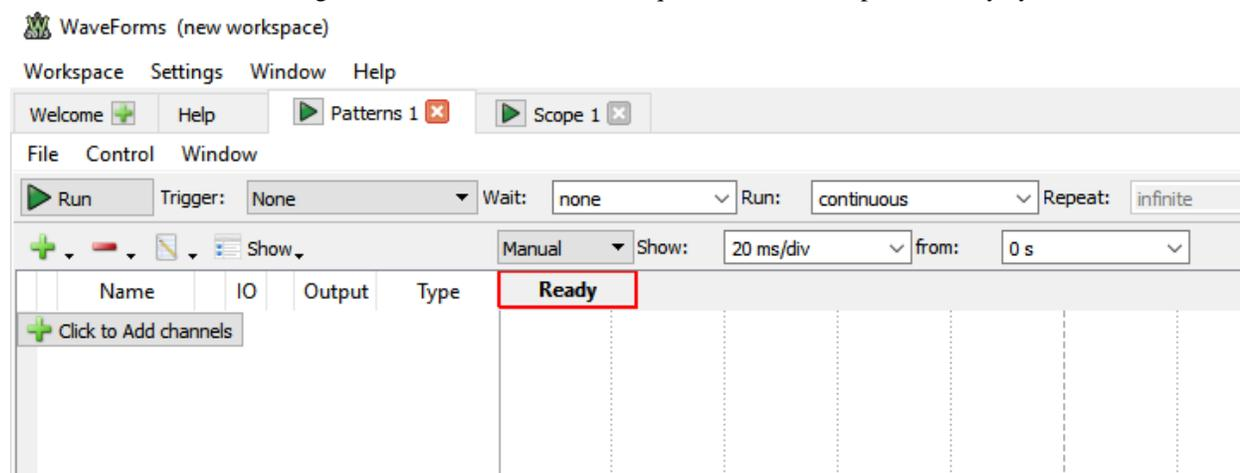

Figure D-1
- 8. Reconstruct one of the resistor, LED combinations and connect the top of the resistor to Digital Channel 0. Ground the other end of the LED. Open Patterns and make sure that it is set to run in continuous mode. Change the display to Manual and Show: 20ms/div from: 0s, as shown in Figure D-1. This time scale is chosen because the goal will be to create a 100Hz square wave with a specified duty cycle.